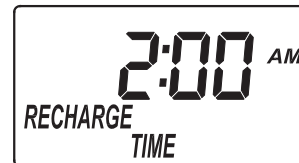

FIG. 24
1. If you completed the previous steps, the words "RECHARGE TIME" should show in the display (See Figure 24). Otherwise, press the SELECT button several times until they do.